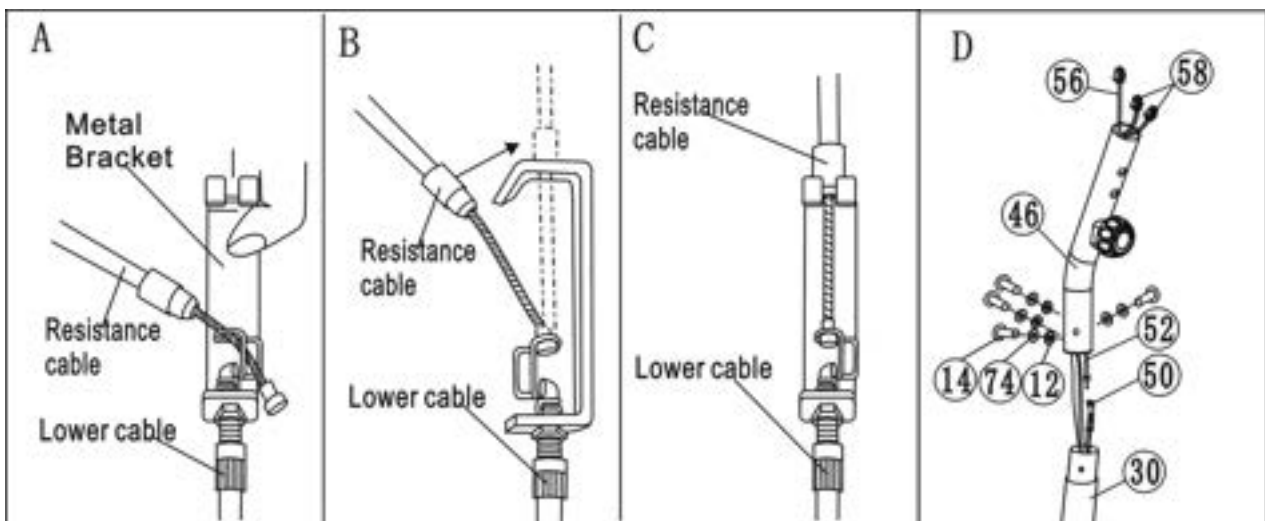

Figure 3
Put the cable end of the resistance cable for the Tension control (56) into the spring hook of Tension control wire (50) as shown on drawing **A** of figure 3.
Pull the resistance cable for the Tension control (52) up and force it into the gap of metal bracket of Tension control wire (50) as shown on drawing **B** of figure 3.
Connect the resistance cable of Tension control (52) with the Tension control wire (50) completed as shown on drawing **C** of figure 3.
Insert the Front upright tube (46) into the tube of Main frame (30) and secure it with four Bolts (14), Spring washer (74) and Arc washers (12). See drawing **D** of figure 3-D.